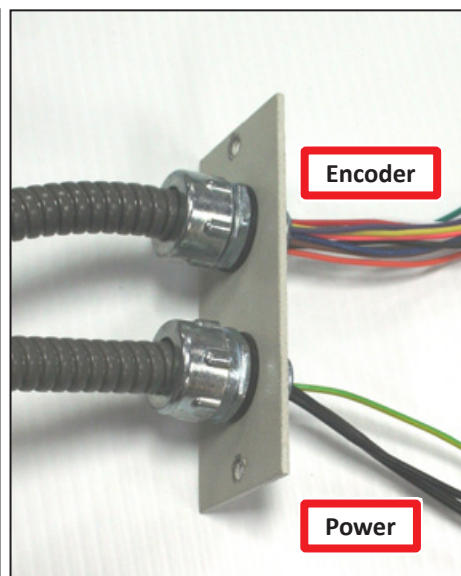

Figure 10
8. Carefully feed the Power and Encoder wires down into the cabinet-top box (see **Figure 10** and **Figure 12**). Pull the wires into the electrical cabinet far enough so that they can reach all connections.